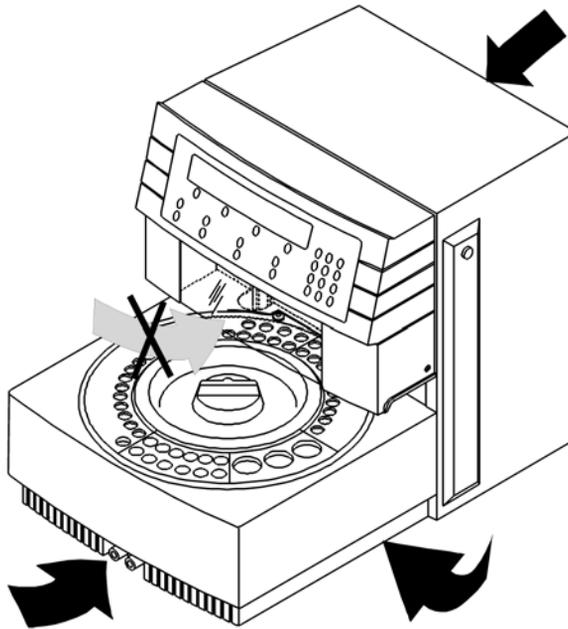

Figure 1 Agilent 410 Autosampler lifting instructions
- 1 Lift the Agilent 410 Autosampler as shown in Figure 1 on page 34 with both hands under the instrument or with one hand under the front and the other hand grasping the rear top of the Agilent 410 Autosampler.